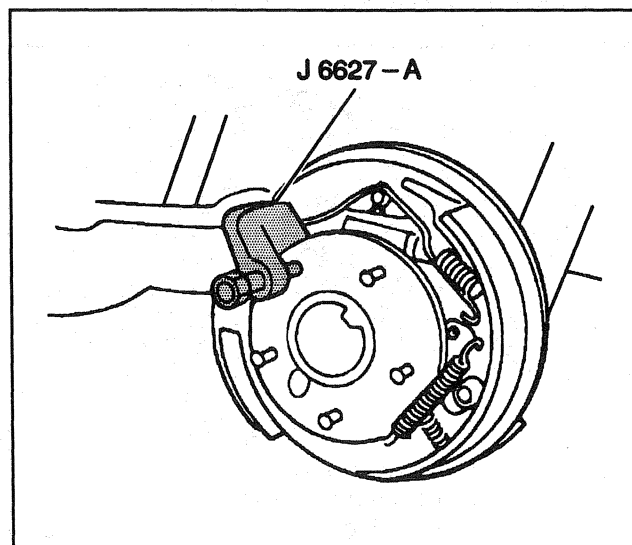

Figure 14—Pressing Out a Wheel Stud
2. Stud from the axle flange using J 6627-A (Figure 14).